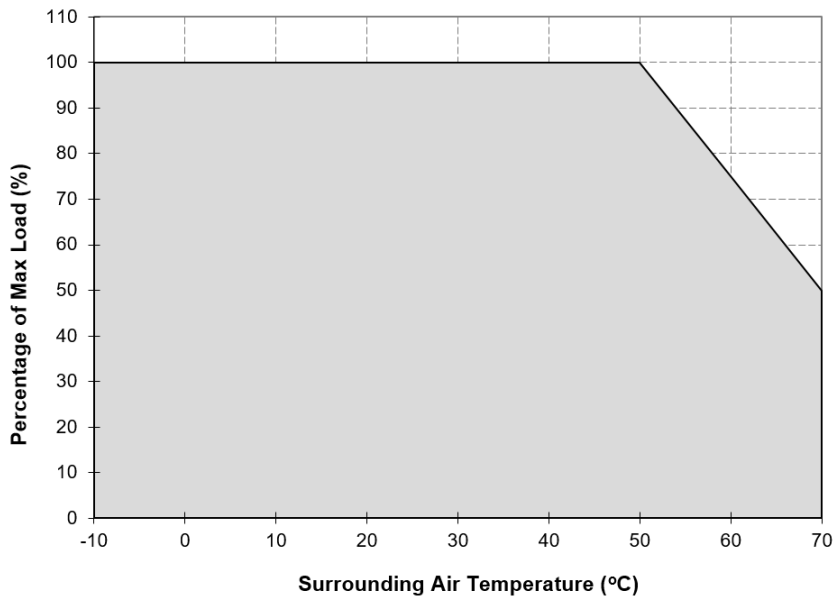

Fig. 1 De-rating for Vertical and Horizontal Mounting Orientation
1. Power supply components may degrade, or be damaged, when the power supply is continuously used outside the shaded region, refer to the graph shown in Fig. 1.